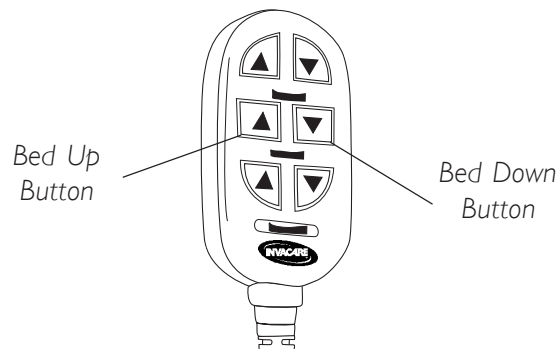

FIGURE 2- RAISING AND LOWERING THE ENTIRE BED (FULL ELECTRIC)
RAISING AND LOWERING THE ENTIRE BED (FIGURE 2)**WARNING**
1. To raise the entire bed, press the "Bed Up" button as shown in FIGURE 2.
2. To Lower entire bed, press the "Bed Down" button as shown in FIGURE 2.